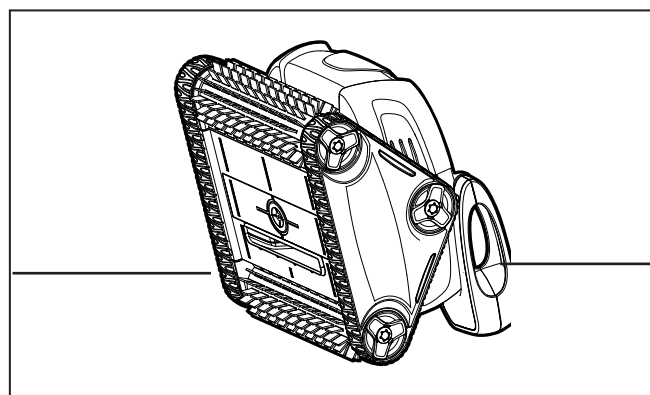

Figure 15. Stand Cleaner Upright
1. Stand the cleaner on its end in a vertical position (Figure 15).